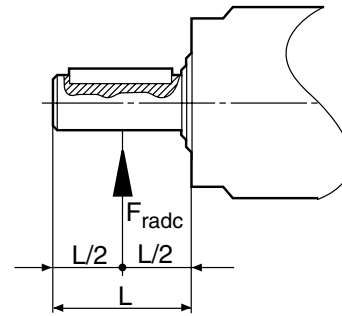

Fig. 4: Force applied at centre of shaft
- b. The force is applied at a distance x, as in figure 4. This value can be calculated as follows: